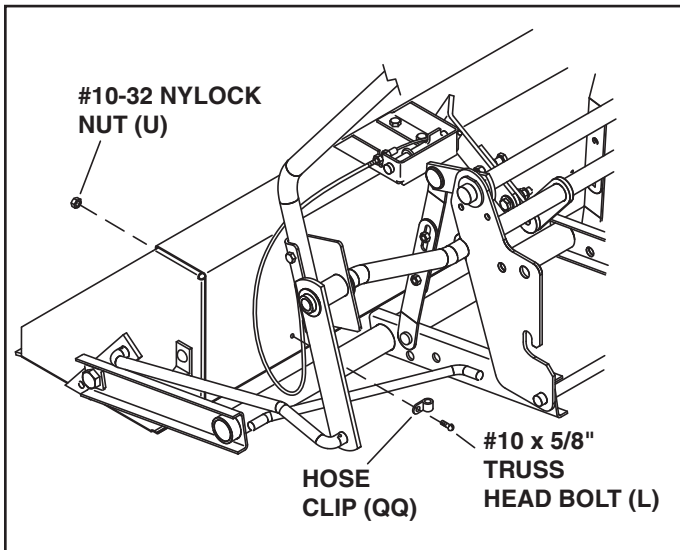

FIGURE 16
STEP 17: INSTALL HOSE CLIP AND SPACER (SEE FIGURE 16)
- Secure the dump cable to the back of the bucket using a hose clip (QQ), a #10 x 5/8" truss-head bolt (L) and a #10-32 nylock nut (U).